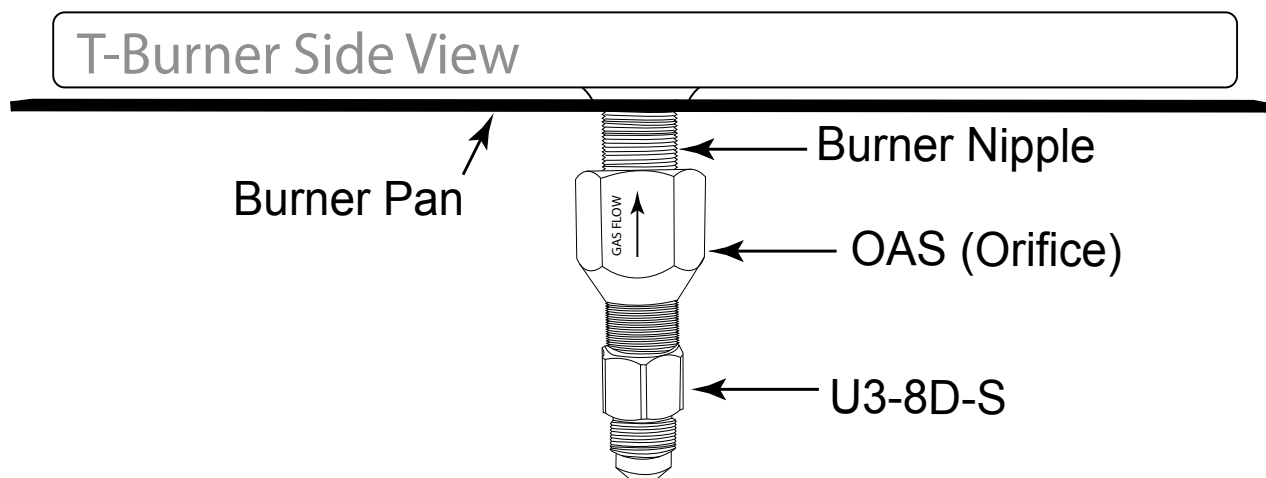
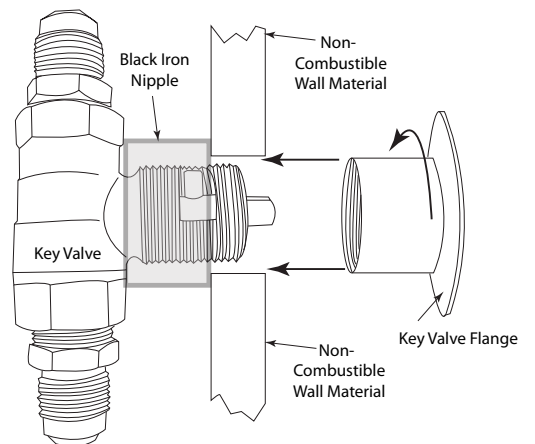

Fig. 4 T-Burner Installed into Burner pan/disc.
Fig. 5 Typical installation.
Step 1: Install the T-Burner through the pan (See Fig. 4) then install the OAS and U3-8D-S to the nipple connect inlet gas line as shown in Fig. 5.